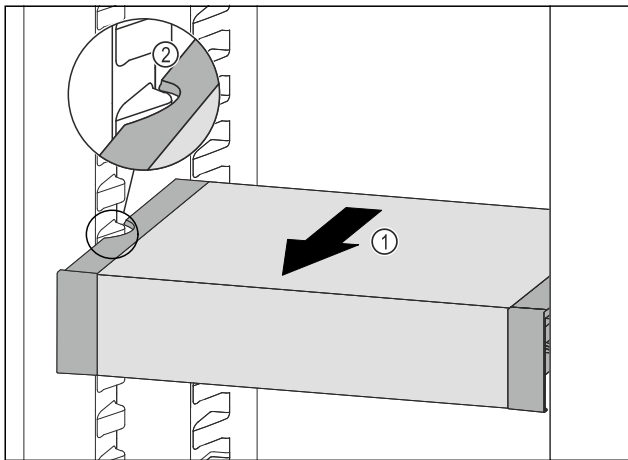

Fig. 99
- Pull VarioSafe forwards Fig. 99 (1) until the recesses in the side of the VarioSafe are at the level of the support rib in the fridge section. Fig. 99 (2)